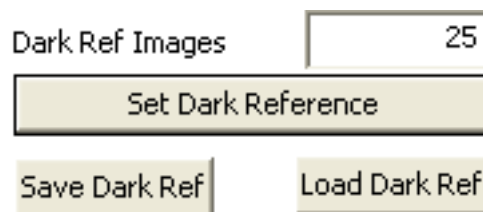

Figure 6.8: Dark current correction setting
3. Clicking on the Set Dark Reference button (see Fig. 6.8) starts the setting of the dark current reference. The duration depends on the exposure time and the number of dark reference images and can take several seconds. The progress of the operation is shown in the progress bar.